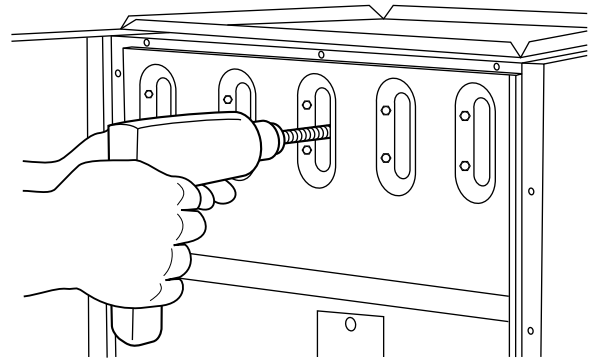

Fig. 47 - Cleaning Heat Exchanger Cell
- (2.) Insert brush end of cable into the outlet opening of cell and slowly rotate with drill. **DO NOT** force cable. Gradually insert cable into upper pass of cell. (See Fig. 47.)